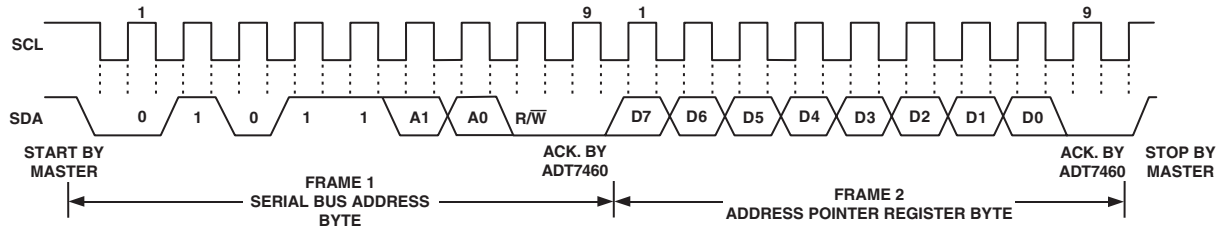

Figure 8. Writing to the Address Pointer Register Only
1. If the ADT7460's Address Pointer Register value is unknown or not the desired value, it is first necessary to set it to the correct value before data can be read from the desired data register. This is done by performing a write to the ADT7460 as before, but only the data byte containing the register address is sent as data is not to be written to the register. This is shown in Figure 8.
2. If the Address Pointer Register is known to be already at the desired address, data can be read from the corresponding data register without first writing to the Address Pointer Register, so Figure 8 can be omitted.